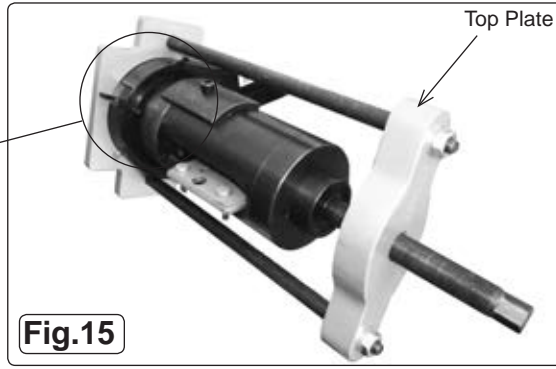

Fig.15
- 6.1.5 Two people are now recommended, with one placing the adaptor and bush in (Fig.14) over the housing bore. See the orientation datums for correct alignment (Fig.7). The second person can offer the press frame over the entire group of items shown in (Fig.16) ensuring the bottom plate locates over the "C" ring. The second person can now wind in the thrust screw ensuring concentricity and squareness of both the press and the adaptor. With a 17mm socket increase the torque and observe the bush sleeve progress through to correct depth insertion. Excessive torque, above 180NM, is not envisaged, but if this occurs, stop and check alignments. Observe closely the depth control legs, when they touch the trailing arm face resistance will increase abruptly, the bush is now fully inserted, see (Fig.15) telescopic view. **DO NOT** attempt to tighten any further.